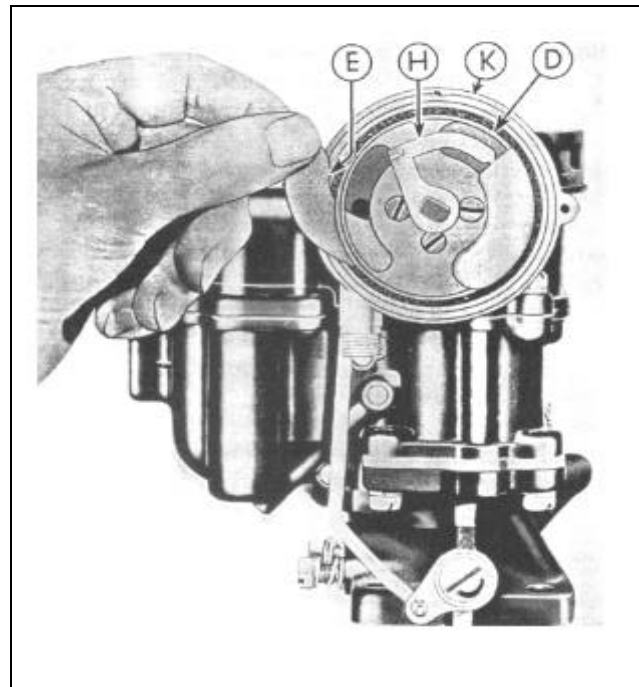

Figure 441
(170) Loosen the three piston plate screws and withdraw the screen (E) (Figure 441), clean and replace with hole in screen at top.